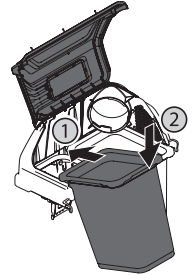

Figure 13
7. Install both bag assemblies onto the bag support brackets by inserting the front edge in first (1), and then setting the back edge down until it fits into the assembly (2) as shown in Figure 13.